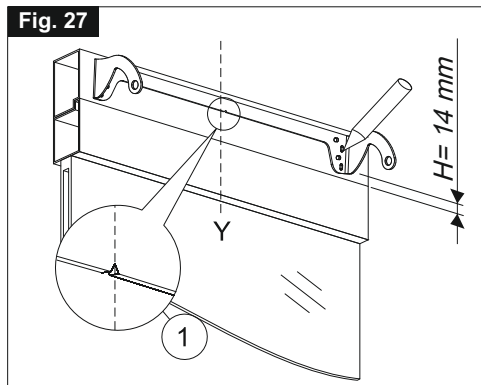

Fig. 28
- 4) **Fig. 28/29-** With a suitable drill, perform four holes on the frame and tighten the bracket with the suitable screws;